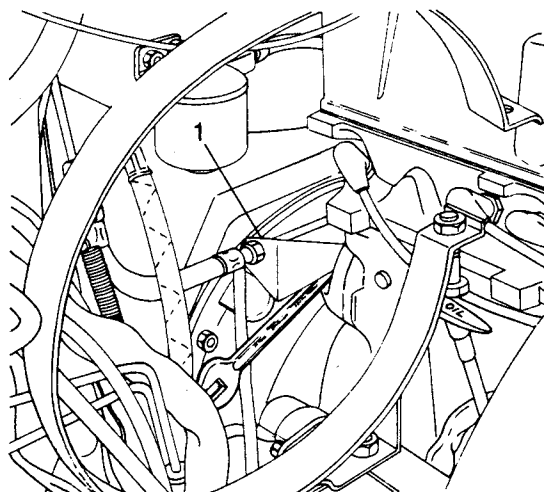

Fig B4.10
- (19) Refer to Fig B4.10. Remove the fixings securing the clutch hose and speedometer cable bracket (1) at the flywheel housing.